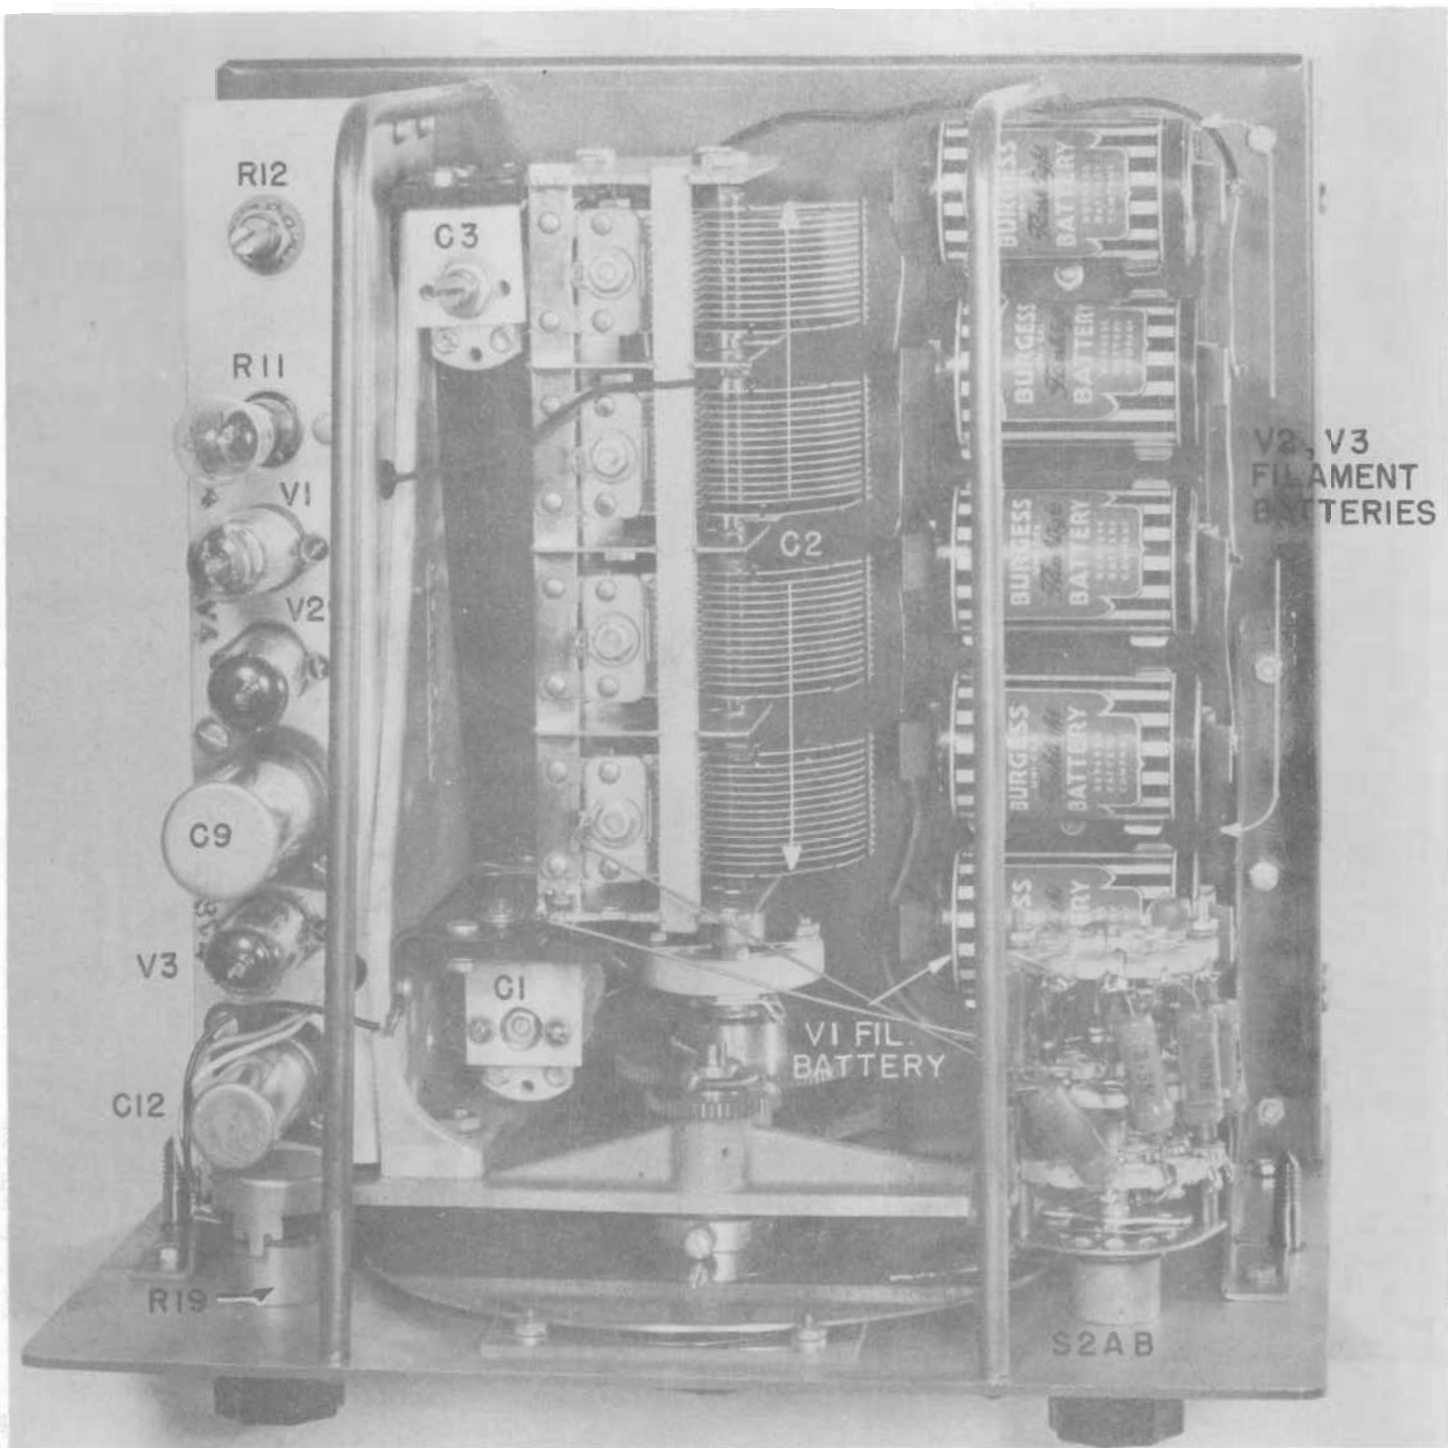

Fig. 2. Model 204A Top View Case Removed
6. If the frequency is correct (2400 cycles/sec.) proceed to the next step. If not correct, then adjust C1 and C3 (See Fig. 2) simultaneously, with a non-metallic screwdriver, until a frequency of 2400 cycles/sec. is obtained. The instrument must always be put back into the case for frequency checking.